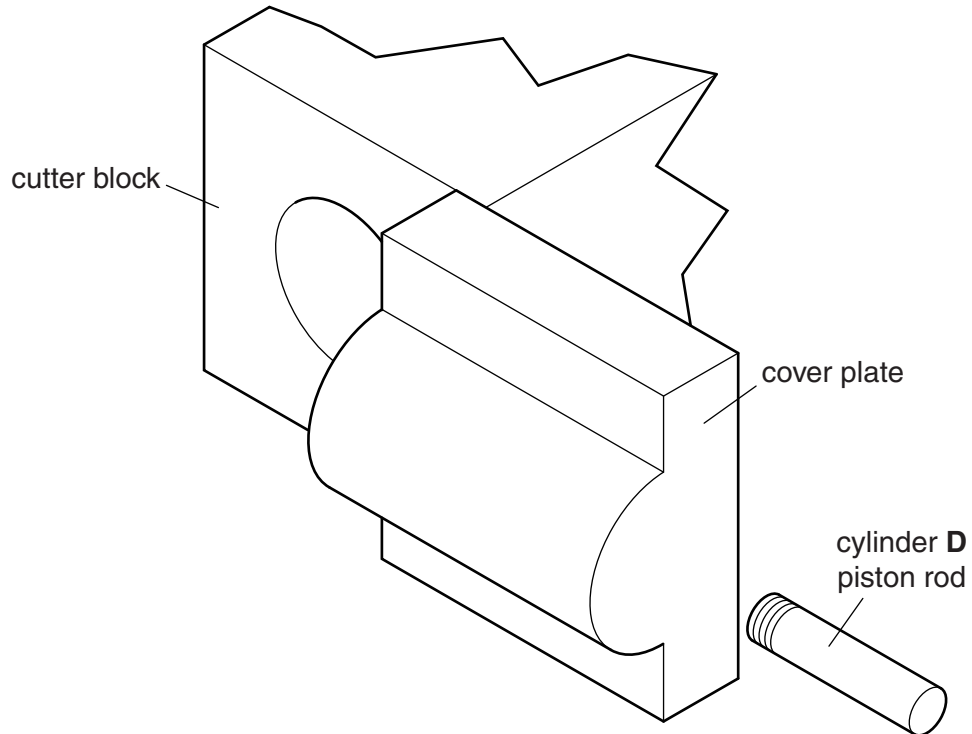

Fig. 7
- (a) Draw an annotated design on Fig. 7 to show a method that will: